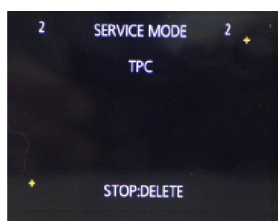

Fig.3-7
2. (+) appears in the upper right and bottom left (Fig.3.7).